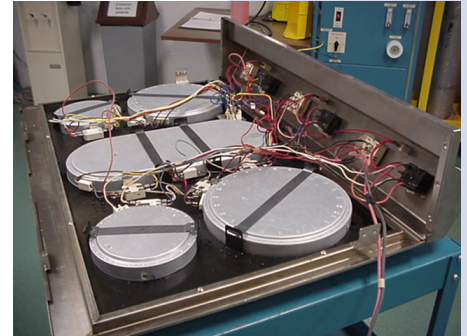

Figure 6
4. The cooktop should look like Figure 6.